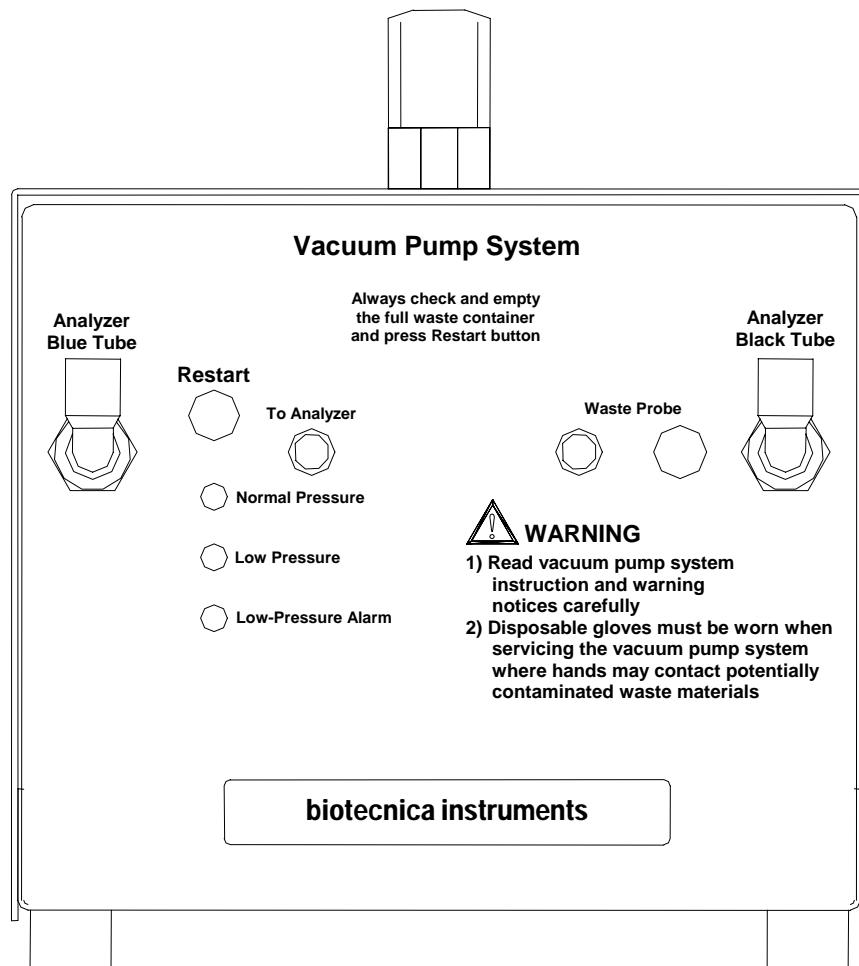

Figure 1
- 1) Connect the Blue and Black waste tubes from the right side of the analyzer to the appropriate quick connect on the vacuum pump cabinet front panel (Fig.1).
- 2) Connect the Waste Probe electric cable (liquid level detector) and the drain tube of to the vacuum pump cabinet front panel (Fig.1 and Fig.3).